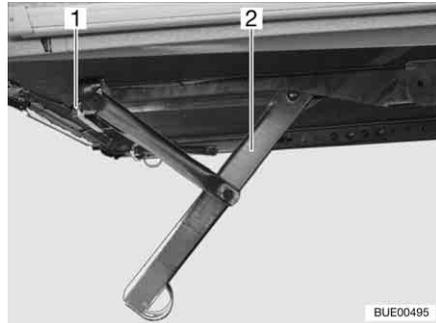
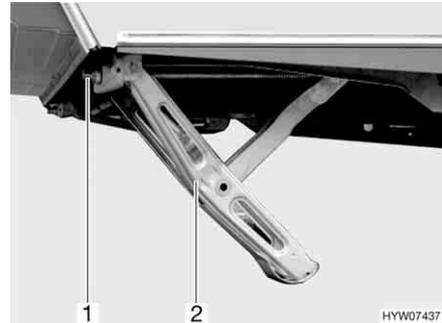

Fig. 17 Corner steady cranked down (variant 1)
Fig. 18 Corner steady cranked down (variant 2)
- Place the hand crank handle provided as standard on the hexagonal nut (Fig. 17,1 or Fig. 18,1) of the corner steady (Fig. 17,2 or Fig. 18,2).